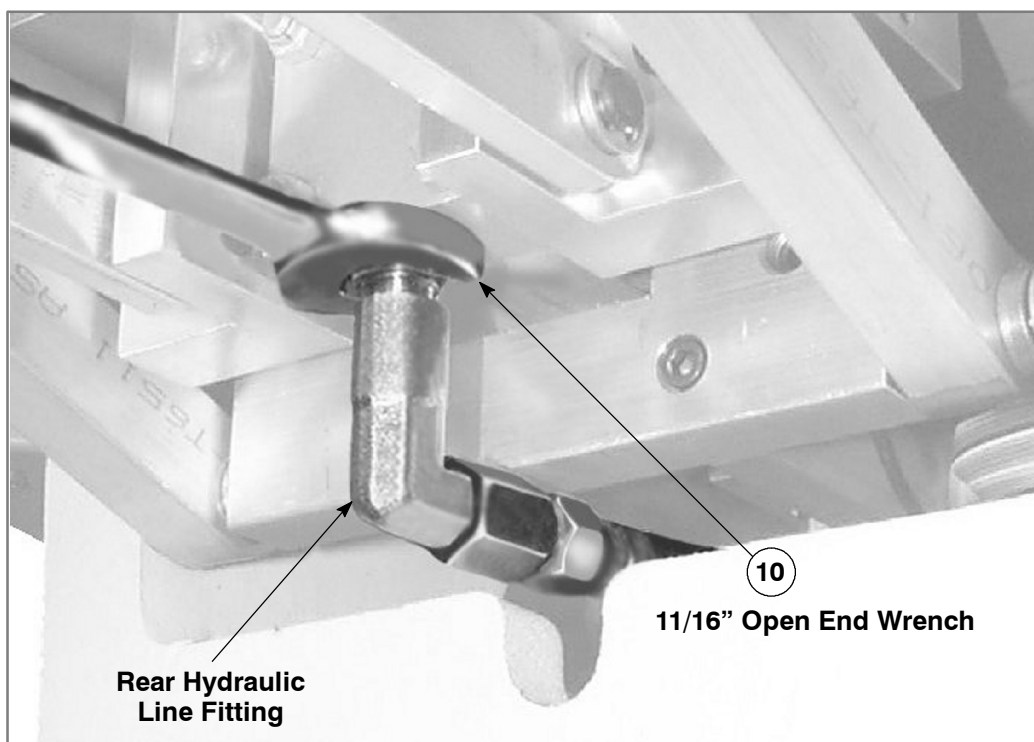

Figure 4-8. Removing the Rear Hydraulic Line on the Upper Hydraulic Cylinder
10. Use the 11/16" open-end wrench, loosen the hydraulic fitting on the rear side of the Upper Hydraulic cylinder. See Figure 4-8. Place a shop towel below the fitting to catch any fluid that may leak as the fitting is loosened.